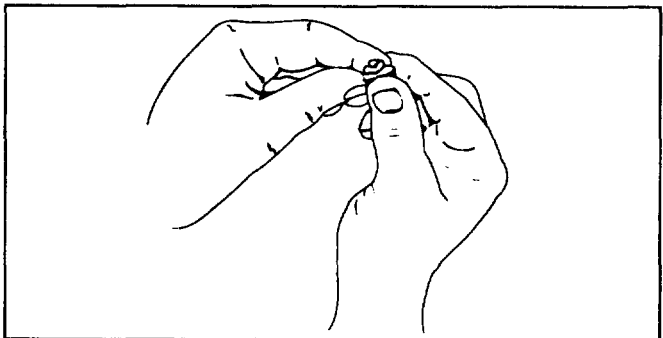

Fig. 24
6. Squeeze the filter to spread the oil (Fig. 24).